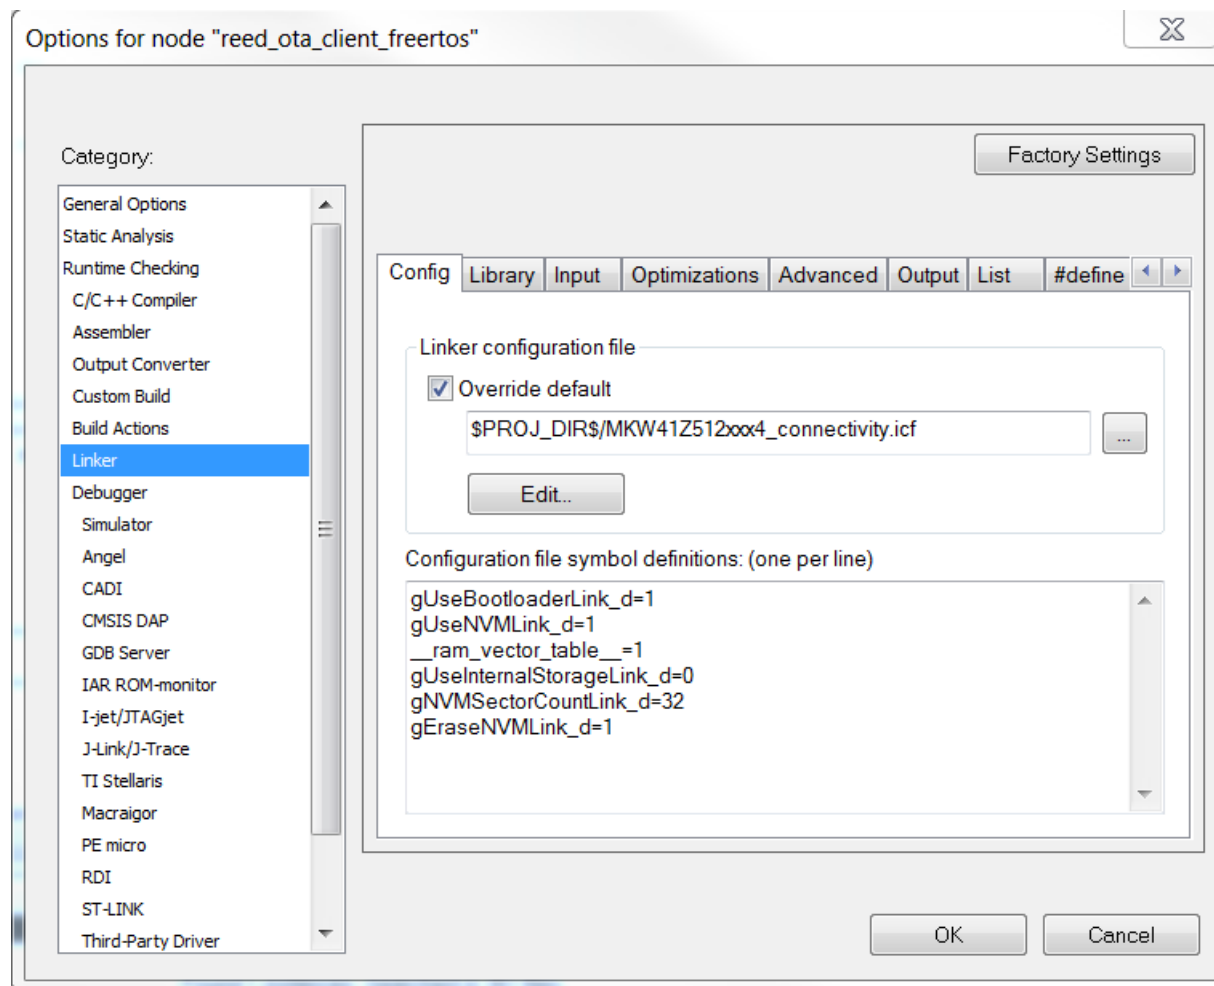

Figure 4. IAR Linker Configuration Options
- ii. For IAR IDE, right click project -> options -> linker -> config and add the appropriate settings as presented in Figure 4.